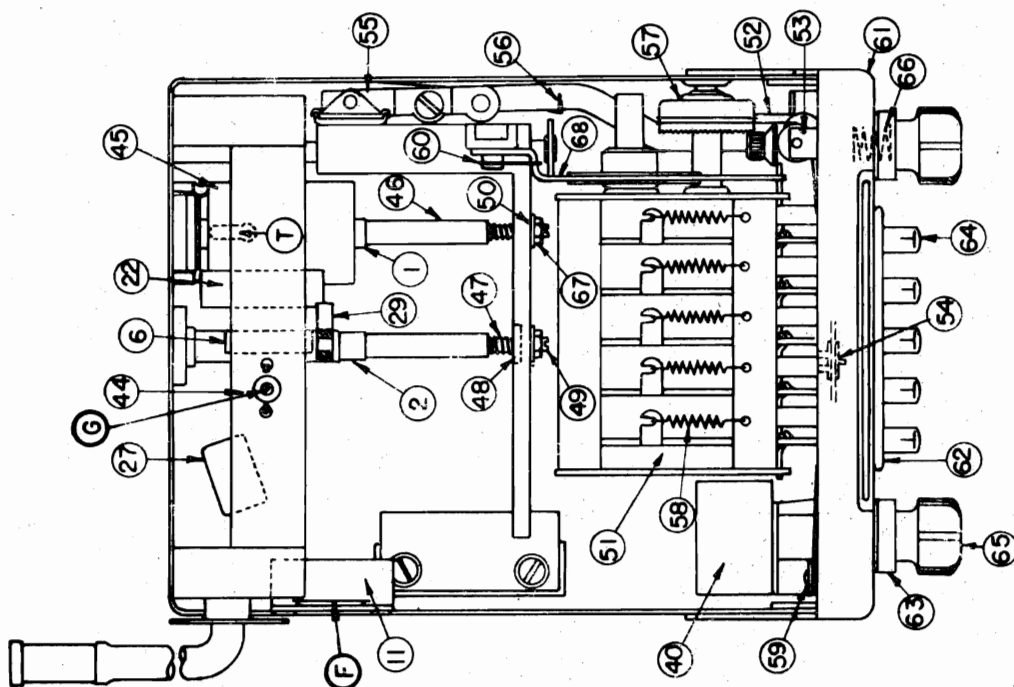

FIG. 5--PARTS LAYOUT--TUNER ASSEMBLY
- (a) Connect the ground lead of the Signal Generator to chassis frame. Connect the signal lead through an 0.1 mfd. condenser to the terminal "T" (Fig. 5).
- (c) Set frequency of the Signal Generator to 1560 kilocycles and adjust the oscillator shunt trimmer "G" for maximum output (Fig. 5).